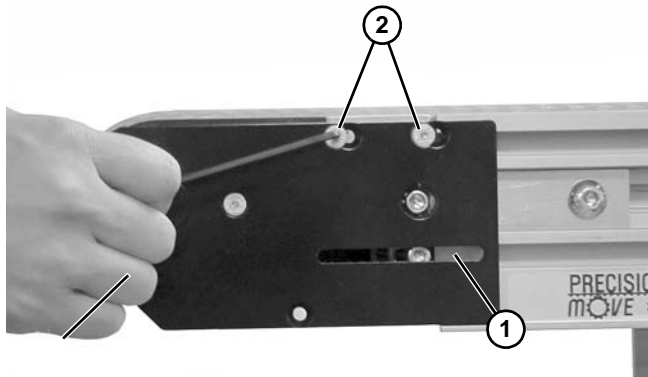
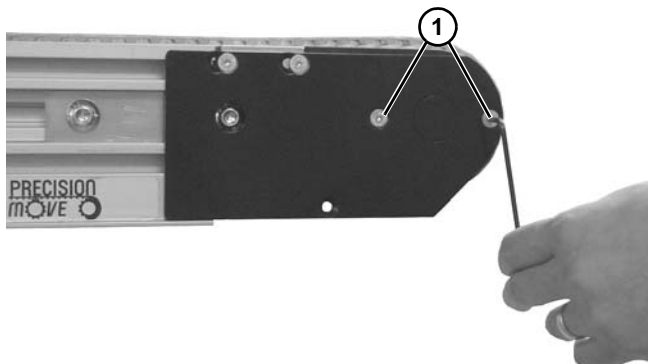

Figure 31
Figure 32
5. On the tension end of the conveyor, identified by the pinion access slot (**Figure 31, item 1**), remove two fastening screws (**Figure 31, item 2**) on one side of the tension end.
6. On opposite side of tension end, remove two fastening screws (**Figure 32, item 1**).
12. Tighten screws (**Figure 31, item 2**) and (**Figure 32, item 1**).